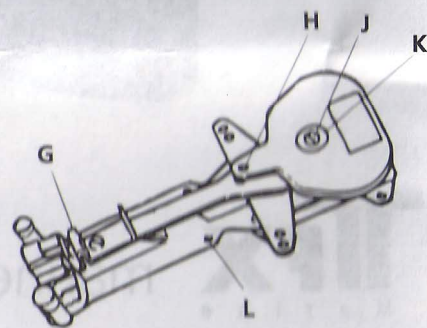

Fig. 2
- Remove screw and washer (J&K fig. 2). Lift off the throttle lever (H fig. 2)